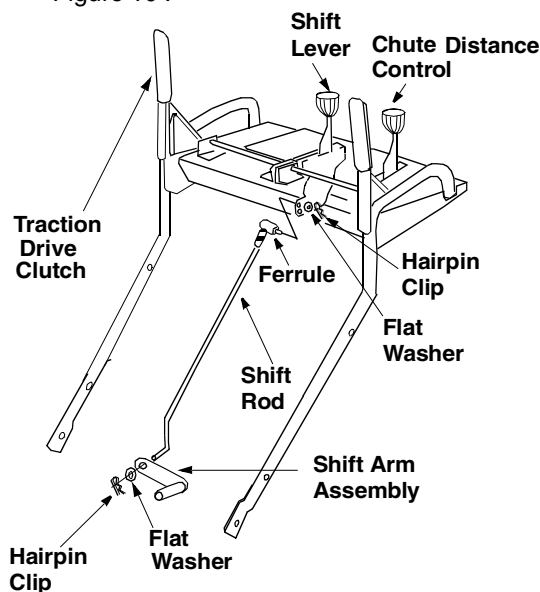

Figure 10
- Place the shift lever in the sixth (6) speed.
- Place the bent end of the shift rod into the hole in the shift arm assembly. See Figure 10 . Secure with 5/16 flat washer and hairpin clip from group D of the hardware pack.
- Once the ferrule slides into the hole, turn it counter-clockwise one more full turn and insert it in the hole in the shift lever. For proper positioning of the ferrule and the associated hardware, see Figure 10 .
- Secure the ferrule to the shift lever with another 5/16 flat washer and hairpin clip from group C of the hardware pack. See Figure 10 .